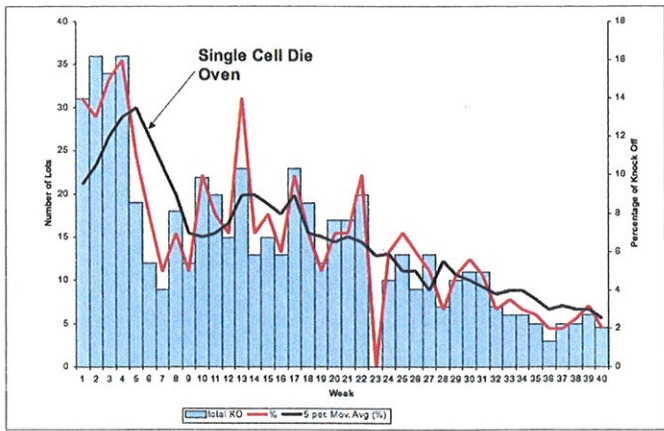

Figure 4. Incidence of knock-offs is reduced by using a single cell die oven.
- Dies tend to work better. The occurrences of dies being pulled from the press prior to completing the planned production (knock-offs) are reduced (Figure 4).